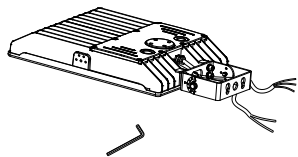

Figure 7
**3. YOKE MOUNTING (YM)**
Step 1: Put the input wire of the light across the bracket. (Figure 7)